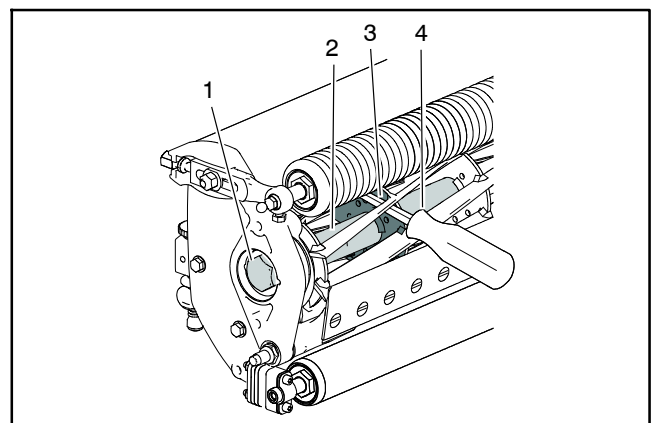

Figure 30
B. Insert a long-handled pry bar (3/8 x 12 inch with screwdriver handle recommended) through the bottom of the cutting unit. The pry bar should pass between the top of the reel shaft and the backs of the reel blades so that the reel will not move (Fig. 30).